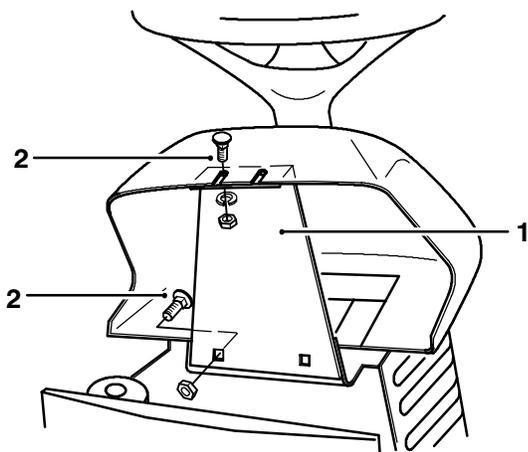

Figure 1
1. Loosen two lock nuts and carriage bolts retaining solenoid plate to the top of the dash (Fig. 1).
2. Remove two lock nuts and carriage bolts securing bottom of the solenoid plate (Fig. 1).